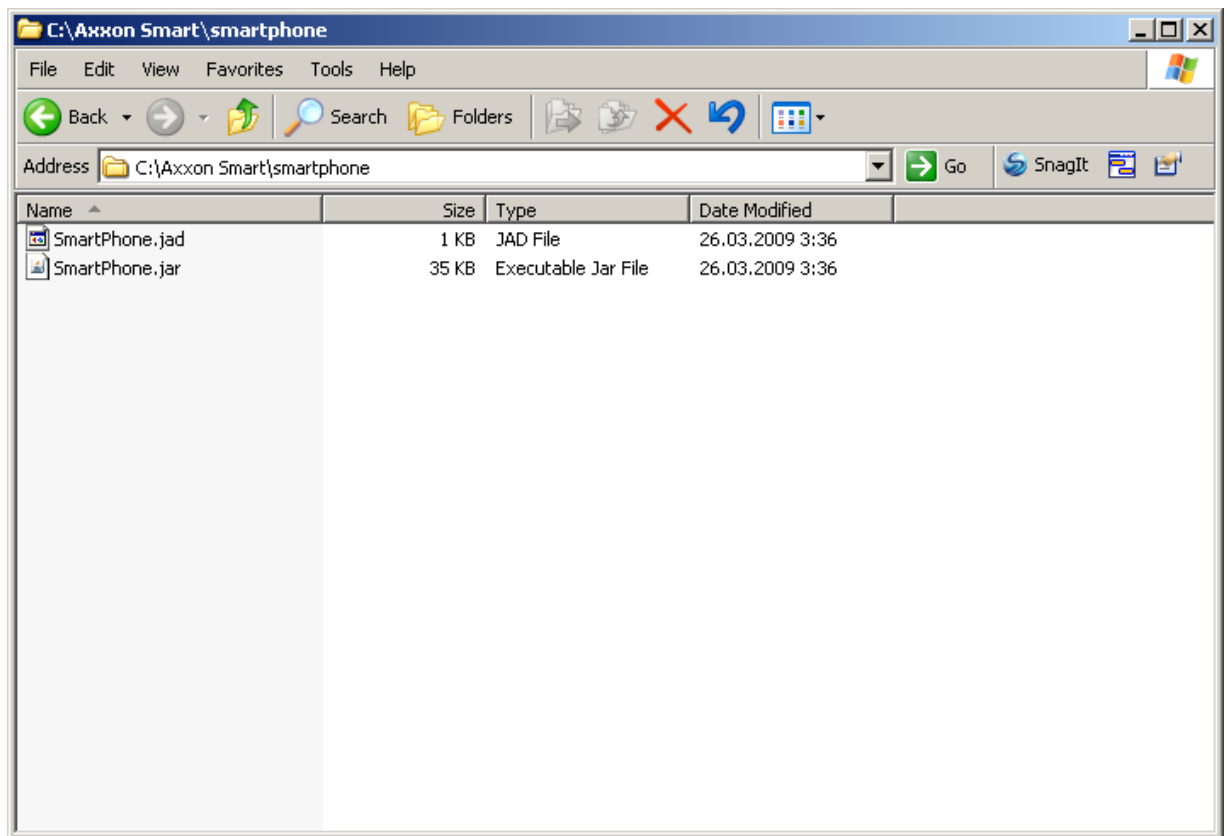

Figure 1.5.6-1
- display resolution not less than 100x100 pixels and the specialized software included with the Axxon Smart system in the Smartphone folder (Figure 1.5.6-1).